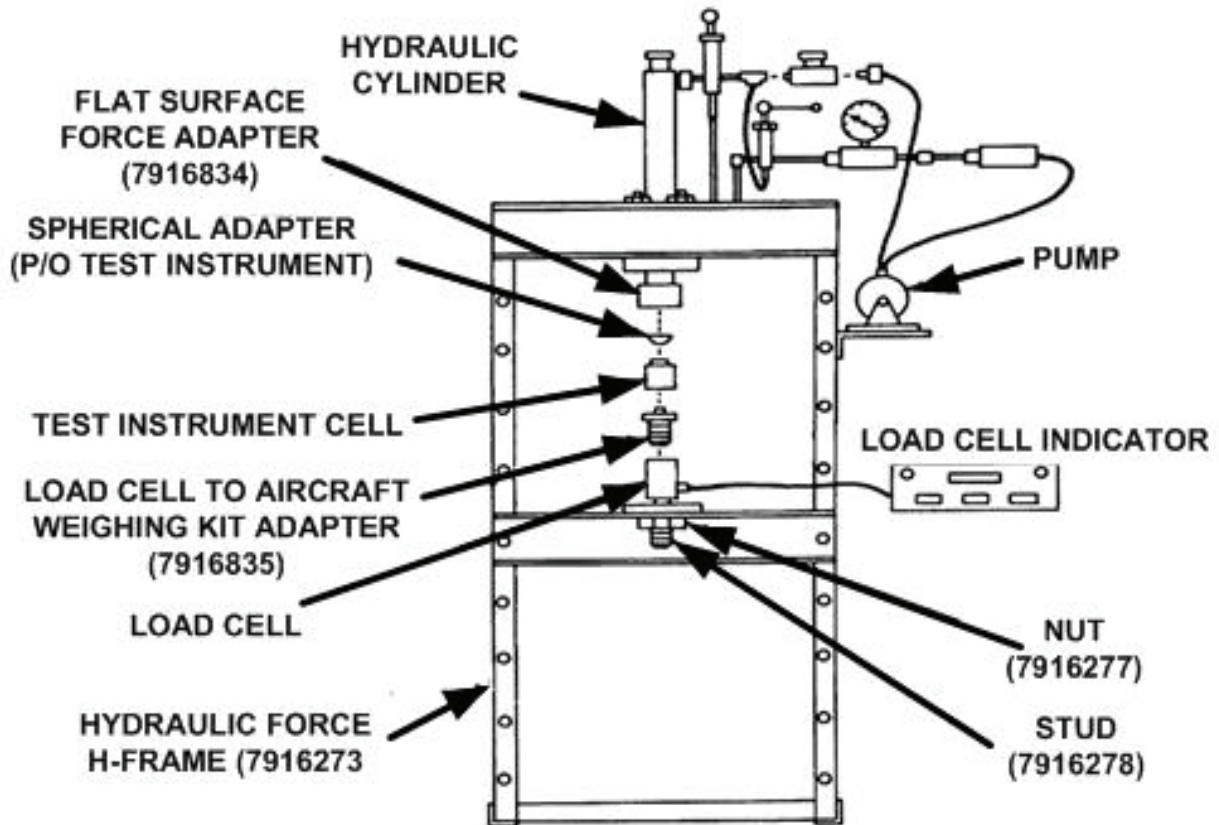

Figure 1. Aircraft weighing kit - equipment setup.
(1) Set power switch to 115 V, 60 Hz.
(2) Operate **BATTERY VOLTAGE** switch on indicator panel of TI and adjust **AC VOLTAGE ADJUST** control until pointer of balance meter indicates in green area of milliammeter scale.
**d.** Setup equipment as shown in figure 1 using load cell No. 2 and TI cell No. 1.